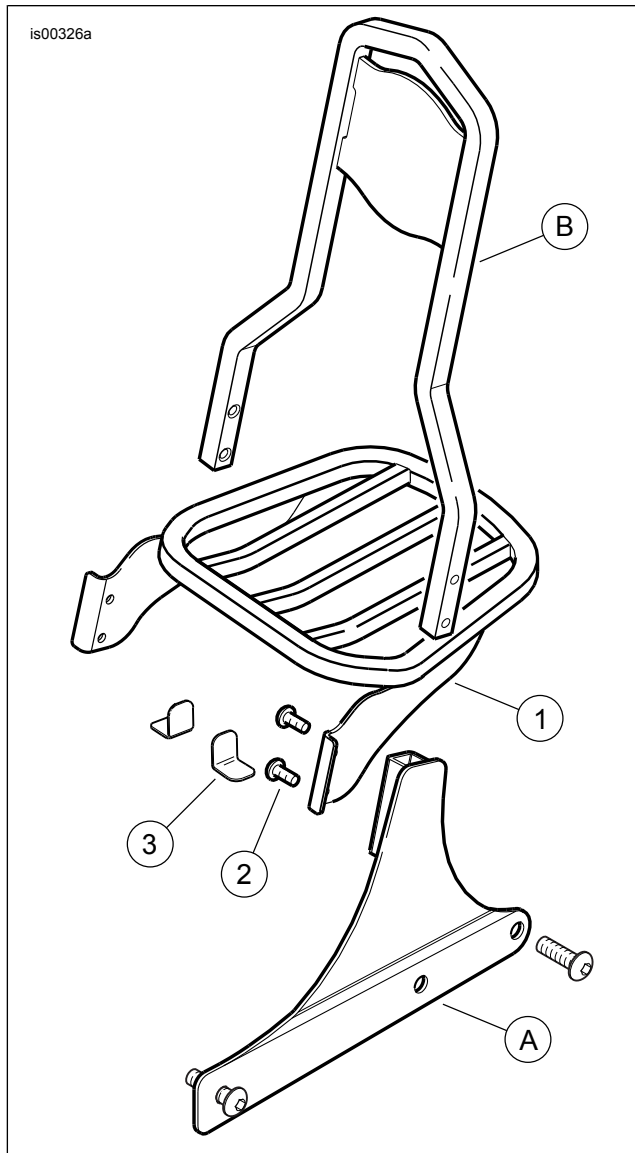

Figure 1. Service Parts, Sport Luggage Racks
See Figure 1 and Table 2.
1. See Figure 1. **Loosen** front two 3/8-16 TORX screws that attach rigid mount sideplates (A).
3. Raise sissy bar/sideplate assembly to gain access to screws (2) that attach sissy bar (B) to sideplates.